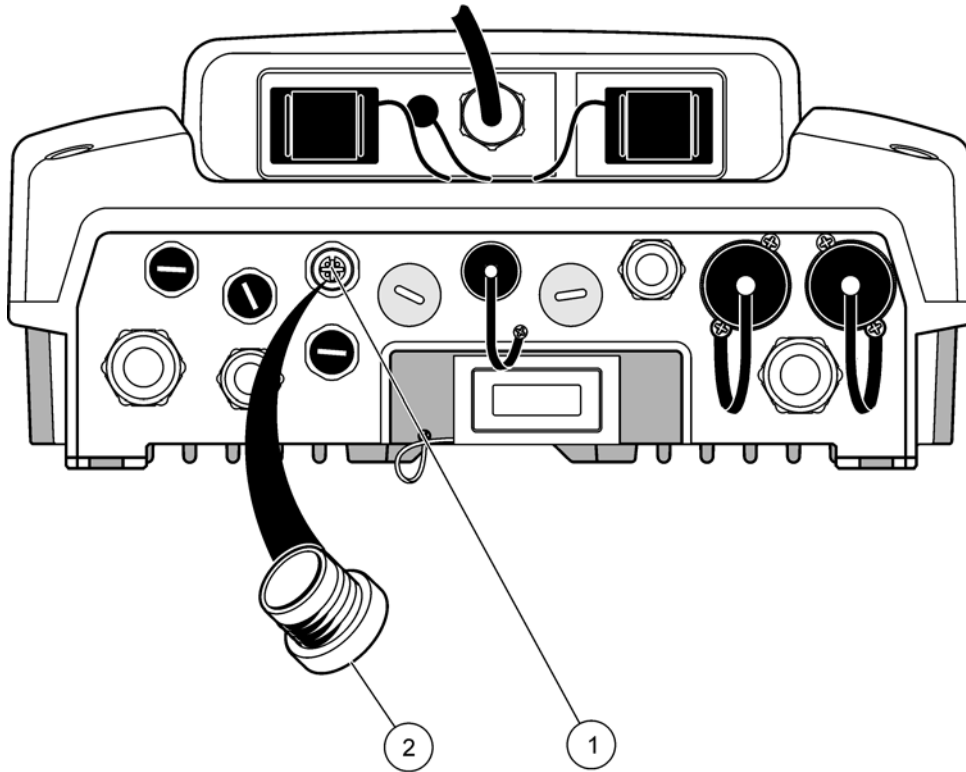

Figure 34 Removing the protective cover
1. Unscrew the protective cover on the controller socket (Figure 34). Retain the protective cover. When you remove the probe, re-fit the protective cover.